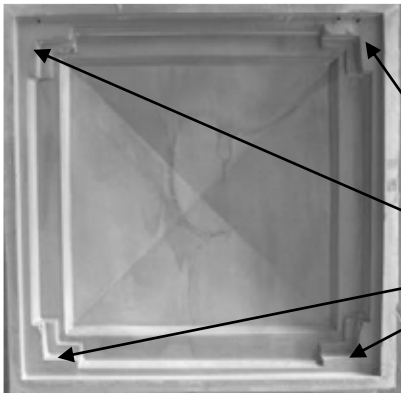

Fig. 3
- 4) Use adhesive on the 4 modified landing points to secure the cap. (Fig 3)
4) Place the bottom ring (marked B), flange down, onto the deck. Pre-drill the four sides and attach the ring to the post using 2" galvanized screws. Use shims to make the ring snug and centered on post. (Fig. 3)
(Fig. 3)